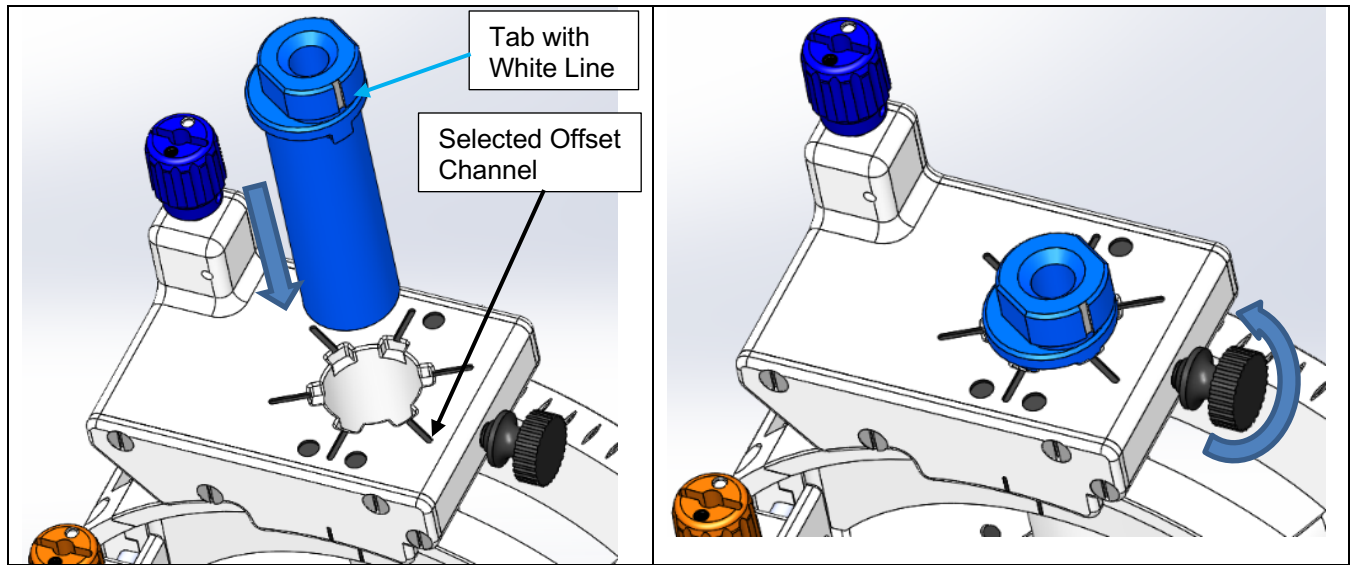

Figure 29: Offset Insertion Guide Inserted into the desired offset position on the SMARTFrame Array tower
5. Insert the OFFSET Insertion Guide so that the tab clicks into the slot that corresponds to the selected channel. **See Figure 29.**